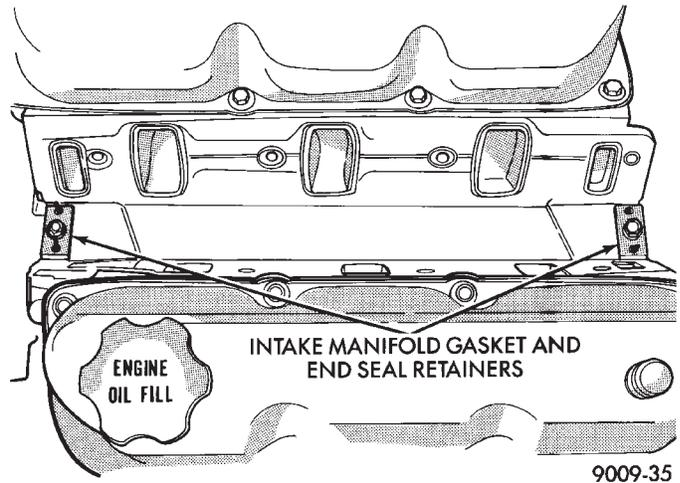

Fig. 14 Intake Manifold Gasket Retainers
(3) Carefully install the intake manifold gasket (Fig. 14). Torque end seal retainer screws to 12 N·m (105 in. lbs.).